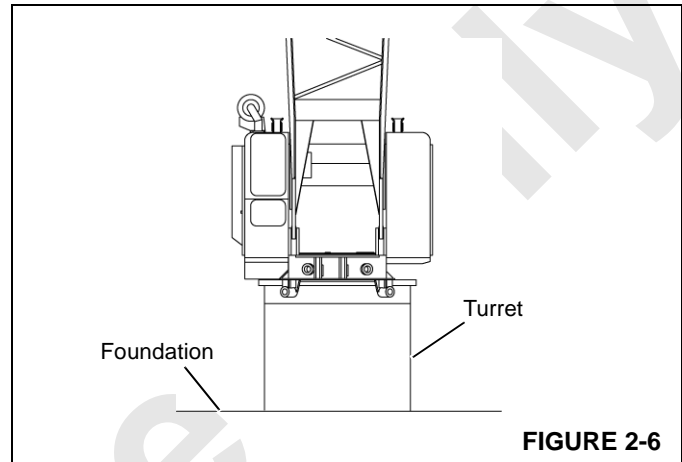

FIGURE 2-6
1. Crane rotating bed mounted on a turret (pedestal) which is securely fastened to the foundation (Figure 2-6).